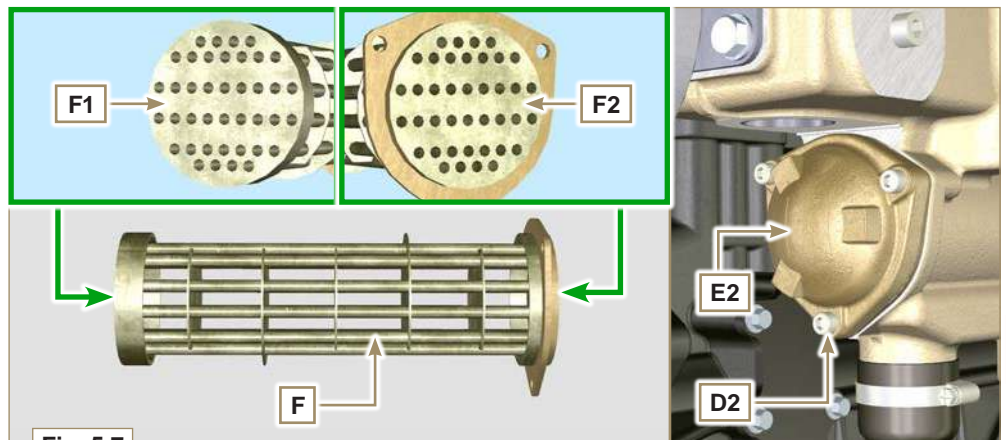

Fig. 5.7
**NOTE:** if the inside of the pipes on surfaces **F1** and **F2** (Fig. 5.7) are clogged with deposits even after having been cleaned as per **step 6**, the pipes must be cleaned using specific mechanical tools.